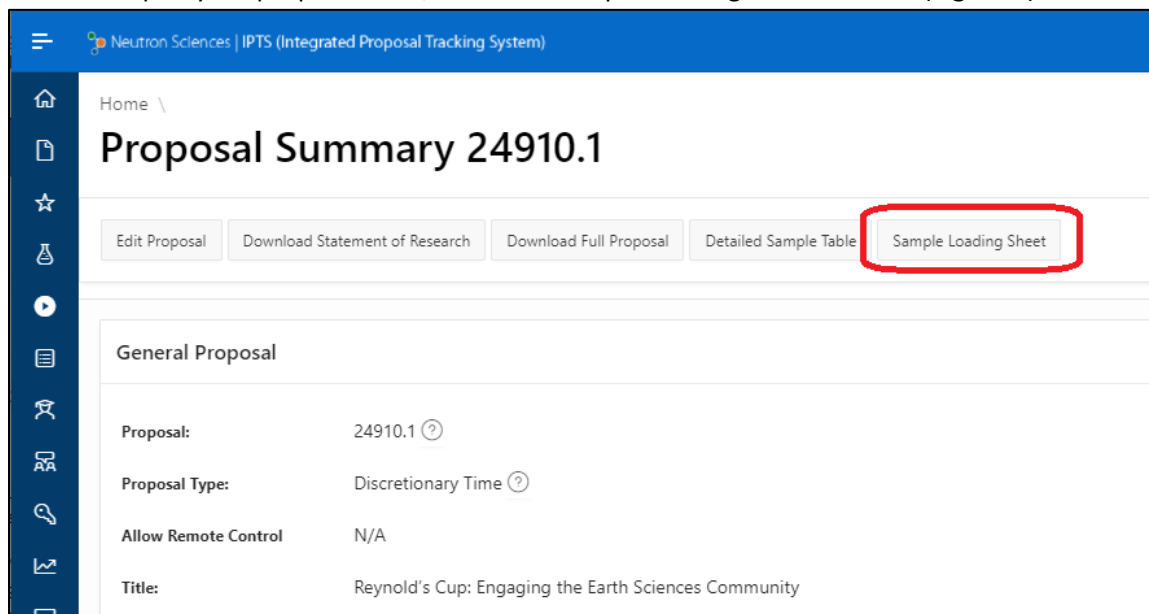

Figure 2. Link to the Sample Loading Sheet (circled in red) near the top of the proposal view page.
2. Near the top of your proposal view, click the “Sample Loading Sheet” button (Figure 2).